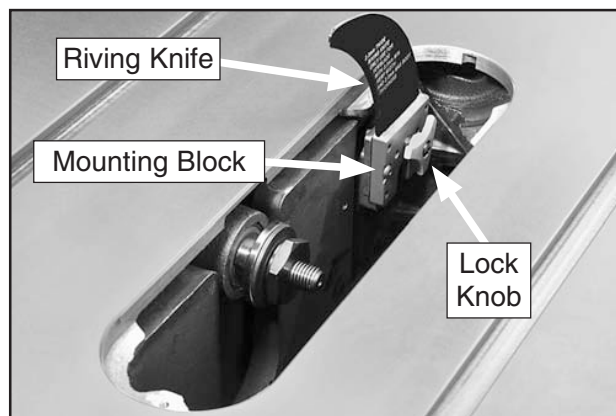

Figure 41. Riving knife installed.
- Unthread the lock knob on the riving knife/blade guard mounting block (**Figure 41**) several turns. Push the riving knife away from the knob, then lift the riving knife up to remove it.